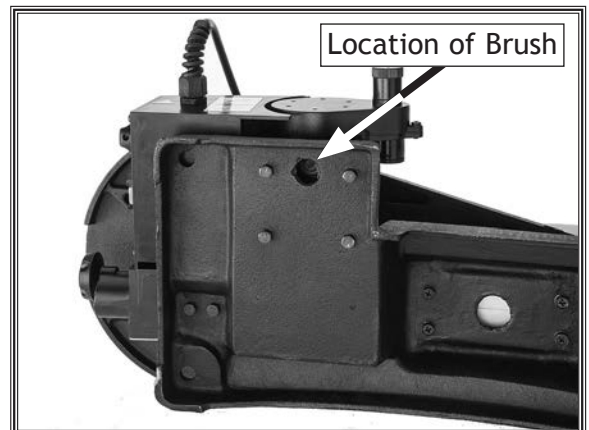

Figure 37. Lower motor brush location.
4. Remove lower brush cap and motor brush, accessing them through a hole in bottom of base (see **Figure 37**).